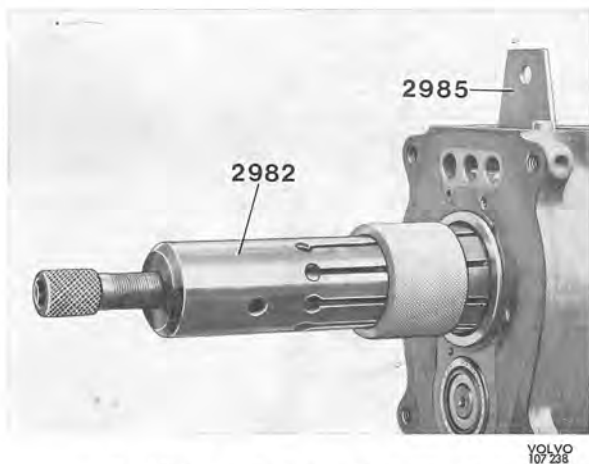

Fig. 4-20. Removing bearing for input shaft
7. Remove the circlip and pull off the bearing for the input shaft with puller 2982, see Fig. 4-20. Remove counterhold 2985.